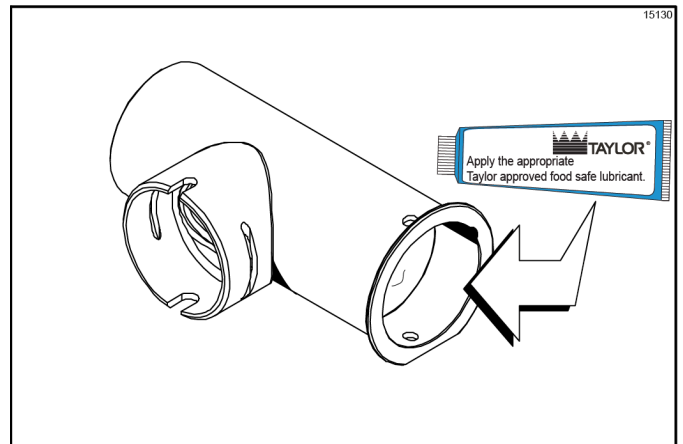

Figure 6-30
- Apply a thin layer of lubricant to the inside of the pump cylinder at the retaining pin end. (See Figure 6-30.)